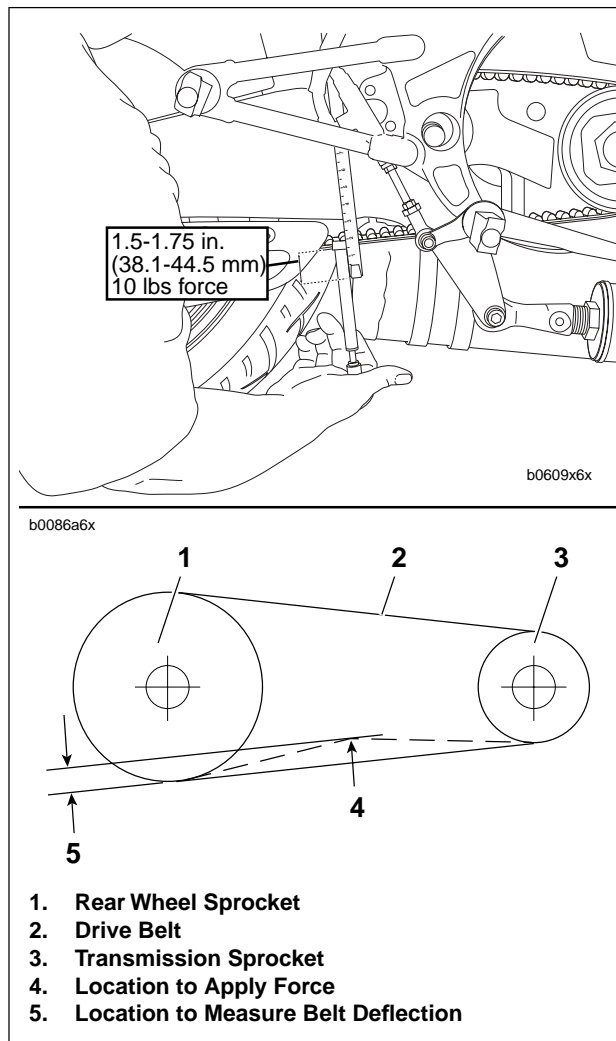

Figure 1-23. Checking Belt Deflection
4. See Figure 1-23. Apply 10 lbs of force to belt at midpoint of bottom strand using BELT TENSION GAUGE (Part No. HD-35381). The deflection should be upwards as shown.